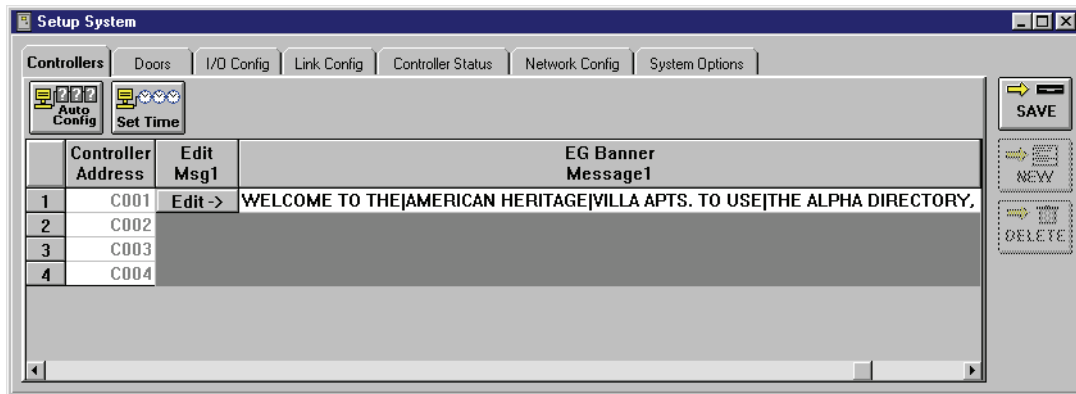

Figure 10-8: Banner Message1 Column
- Once you are satisfied with the message, click on the **Done** button. The message will appear in the EG Banner Message1 column (see Figure 10-8).